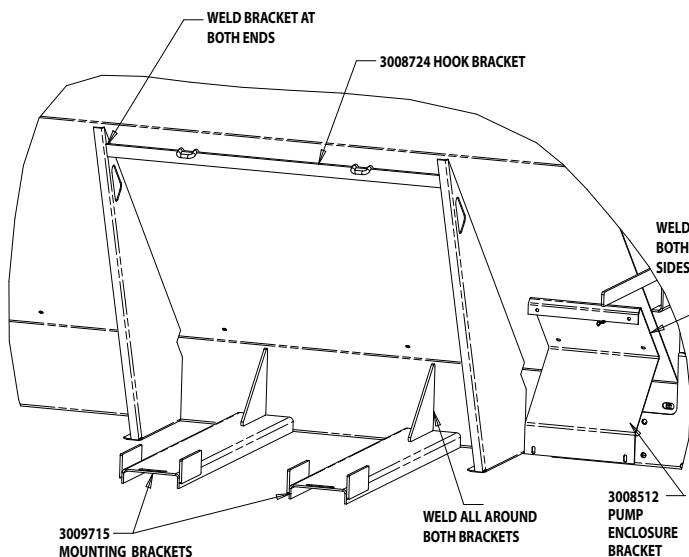
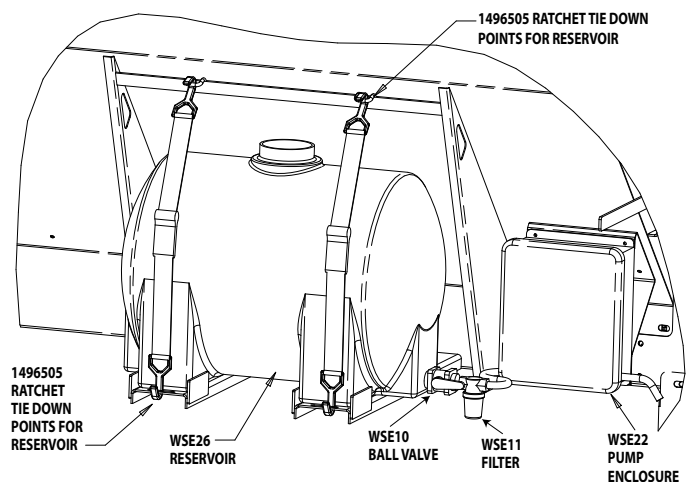

Fig. 1 Bracket Installation
Fig. 2 Reservoir Ratchet Tie-Down Pump Enclosure Installation
1. Position pump enclosure bracket (#3008512) (see fig. 1) and pump enclosure (#WSE22) (see fig. 2) at left rear corner of hopper spreader, (see figs. 1 & 2). Make sure pump enclosure and bracket do not interfere with operation of other accessories such as the feedgate lever, engine hood, etc.
3. Position reservoir (#WSE26), tie bar (#3008589) (see figs. 1 & 2) and mounting brackets (#3009715) on left side of hopper between side gussets. Make sure reservoir is positioned for adequate plumbing clearance and to remove filler/breather cap.
5. Install reservoir on mounting brackets. Use two (#1496505) (see fig. 2) 1-3/4" x 5" ratchet tie downs to secure reservoir using provided tie down slots and hooks in mounting brackets.